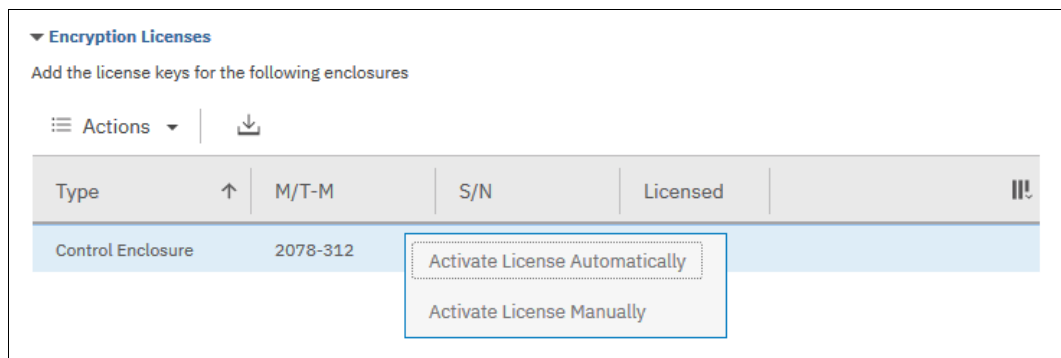

Figure 13-10 Select the Control Enclosure on which you want to enable the encryption
3. The Encryption Licenses window displays information about your control enclosures. Right-click the enclosure on which you want to install an encryption license. This action opens a menu with two license activation options (Activate License Automatically and Activate License Manually), as shown in Figure 13-10. Use either option to activate encryption.